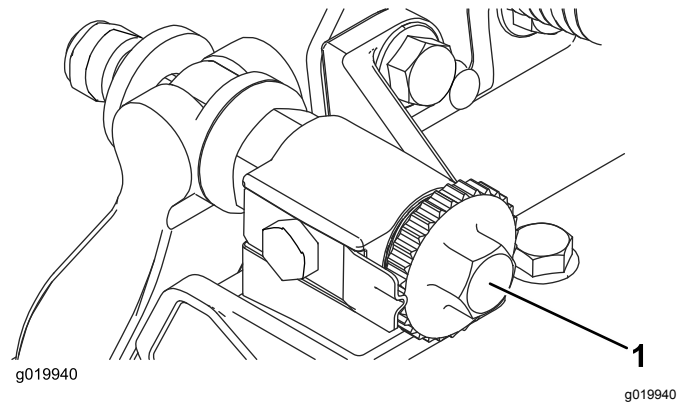

Figure 8
2. Turn the bedbar-adjusting screws counterclockwise to ensure that the bedbar does not contact the reel (Figure 8).